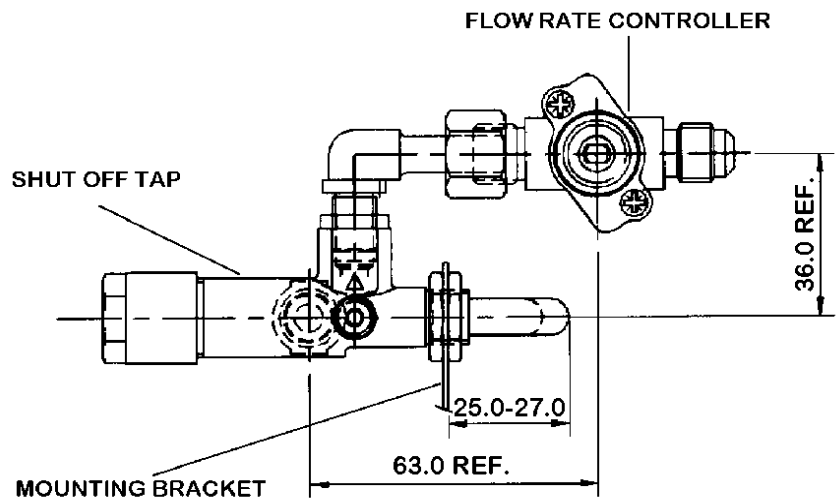

Figure 47. Refitting dimensions of valves into mounting bracket
8. If fitting a new tap, remove the hexagonal nut at the mounting bracket end of the old tap and fit to the replacement tap. Prior to refitting the elbow to the shut-off tap, apply an approved sealant to the elbow thread. Refit in the reverse order. Refer to figure 47 to ensure accurate refitting dimensions of the valves and subsequently into the mounting bracket. When refitting, make sure that the tap spindle is in the correct relationship relative to the control pivot bracket. Rotate the pivot bracket fully clockwise. The tap spindle should "bottom out" (i.e. the tap should be fully open) after the pivot bracket has actuated the ignition microswitch but before it has pushed the microswitch leaf against the microswitch body.